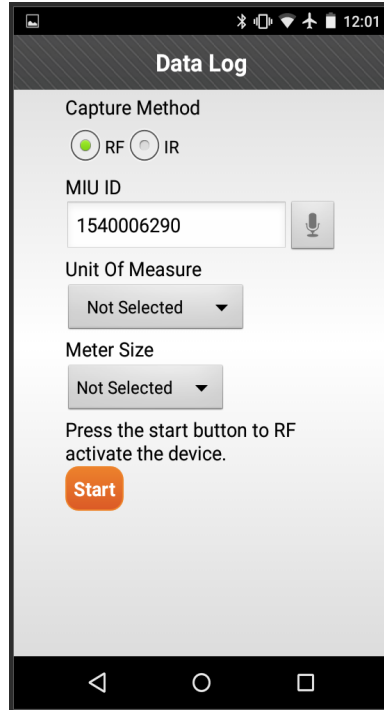

Figure 12 Connect Device Screen
- 1 Press  and the connect screen displays. See Figure 12 on page 17.
- 2 Select the **Capture Method** as shown in Figure 12.